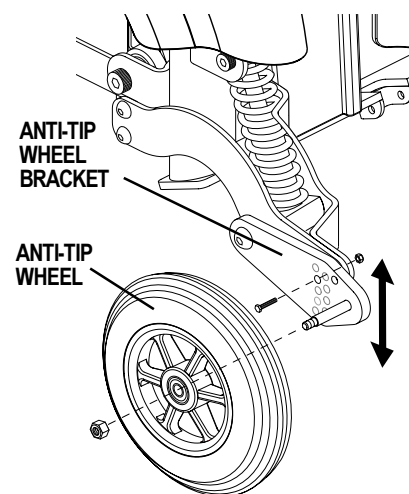

Figure 26. Anti-Tip Wheel Assembly
1. Remove the anti-tip wheel. See figure 26.
2. Remove the nut and bolt on the anti-tip wheel bracket. See figure 26.